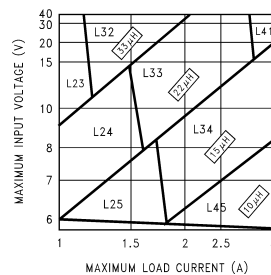
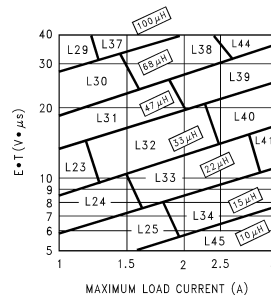

Figure 10. LM2673-3.3
Figure 13. LM2673-ADJ
Step 3: Determine the inductor required by using one of the four nomographs, Figure 10 through Figure 13. Table 1 provides a specific manufacturer and part number for the inductor.
Step 5: Determine an input capacitor from Table 4 for fixed output voltage applications. Use Table 2 to find the specific capacitor type. For adjustable output circuits select a capacitor from Table 2 with a sufficient working voltage (WV) rating greater than $V_{in\ max}$, and an rms current rating greater than one-half the maximum load current (2 or more capacitors in parallel may be required).
Step 3: Use the nomograph for the 3.3V device, Figure 10. The intersection of the 16V horizontal line ($V_{in\ max}$) and the 2.5A vertical line ($I_{load\ max}$) indicates that L33, a 22 μ H inductor, is required.
Step 3: To use the nomograph for the adjustable device, Figure 13, requires a calculation of the inductor Volt•microsecond constant (E•T expressed in V• μ S) from the following formula:
Using Figure 13, the intersection of 27V• μ S horizontally and the 2A vertical line (I_{load max}) indicates that L38, a 68 μ H inductor, should be used.